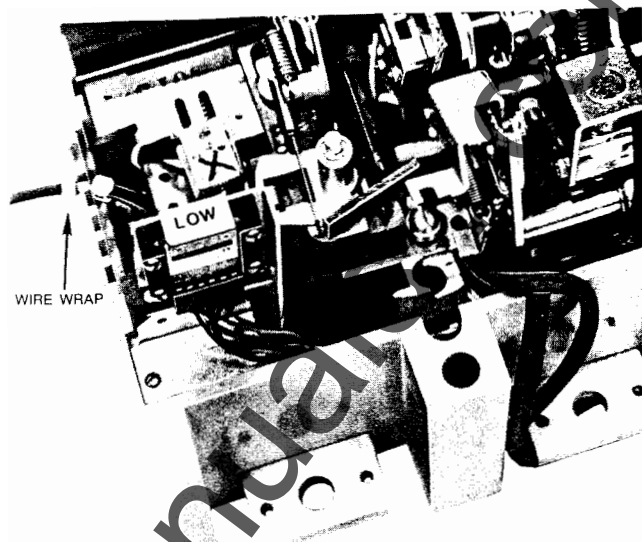

FIG. 27
2. Lift out accessory mounting plate and remove molded drive crank. (Fig. 27).
3. Fasten three (3) retaining screws, see Fig. 27 and torque to 20 inch-pounds (2 small screws) and 75 inch-pounds (large screws with tubing).
4. Attach wire-ties to leads and secure to mounting plate as shown in Fig. 27.
5. Insert leads into knockout in base sidewall making sure one wire tie is on the inside of the base and the other is on the outside. See Fig. 27.
8. Remove knockouts as required in side of base. Each knockout will accommodate up to three bundles of wires (Fig. 27). Remove all sharp edges with a file.
10. Use the tie wraps provided to secure leads to mounting plate and to secure the wire bundle to inside and outside of the breaker base as shown in Fig. 27.